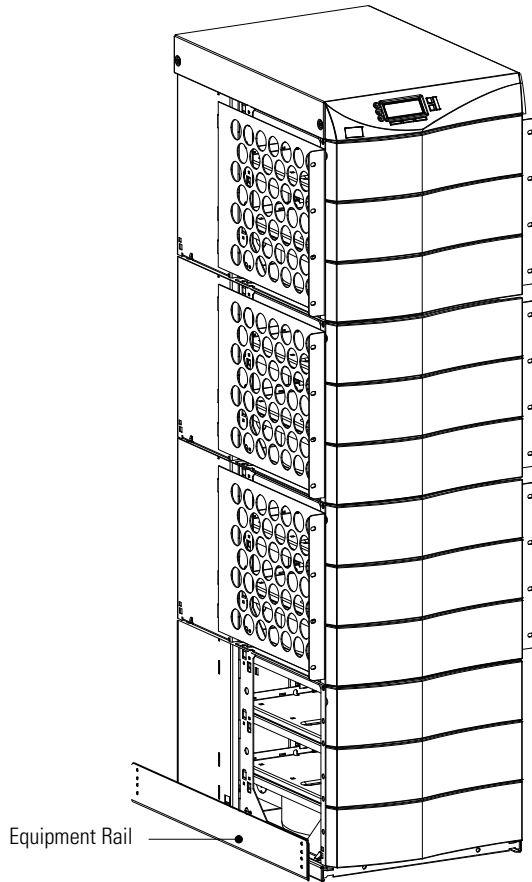

Figure 5. Rails Holding UPS Cabinet
9. With one person lifting each side of the cabinet, position the cabinet onto the two equipment rails (see Figure 5).